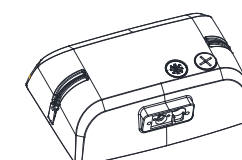

figure 7.7
Step 2: Then slide the switch up and down to adjust the Angle Controller. (figure 7-7)
Step 3: After adjusting the required control function (figure 7-7), tighten the metal plug and the plastic plug clockwise. (figure 7.6)